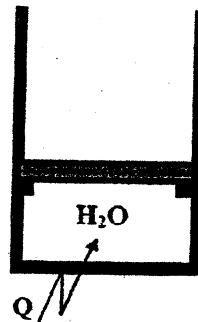

Figure P. 9
9. A piston cylinder device shown in figure P.9 contains 0.2 Kg of a mixture of saturated liquid water and saturated water vapor at a temperature of 50°C and a volume of 0.03m^3 . The mass of the piston resting on the stops is 50 Kg and the cross sectional area of the piston is 12.2625 cm^2 . The atmospheric pressure is 100 kPa. Heat is transferred until it becomes saturated vapor. Sketch the process on P-v and T-v diagrams and determine: [8]